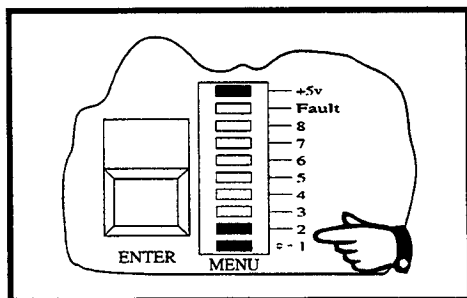

Figure 3-14
- (e) Press the blue **FUNCTION** key **ONCE**. The **Menu** display should cease scrolling and the segment labelled **1** should illuminate. Continue to press the **FUNCTION** key until the segments labelled **1** and **2** are illuminated simultaneously. This combination of segments identifies the auto-zero fault resetting function. See Figure 3-14.